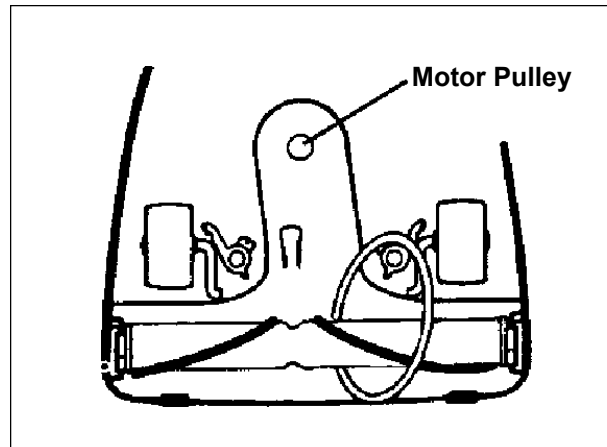

Figure 4
4. Remove the worn belt from the pulley on the motor shaft. See figure 4.